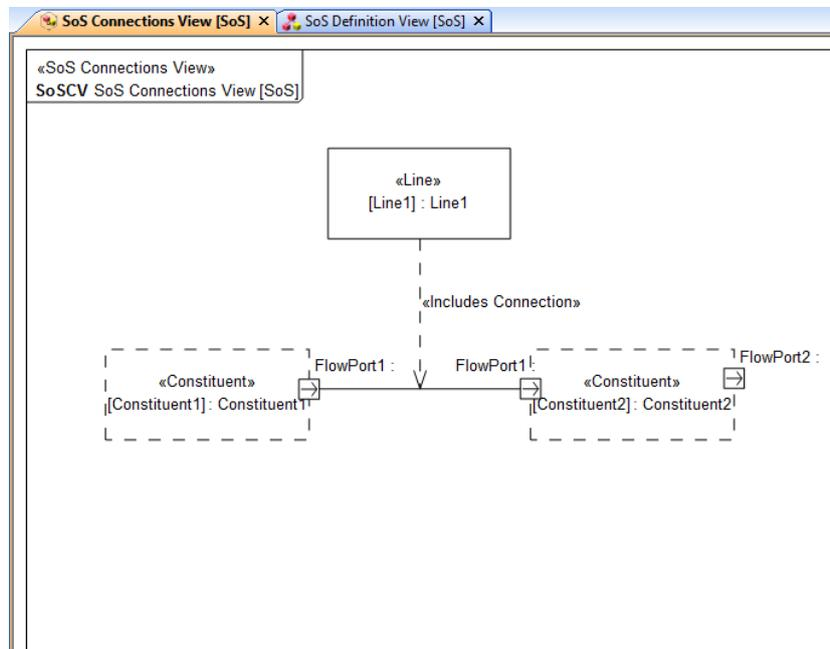

Figure 13: The *SoS Connections View* with the *Includes Connection* dependency added
3. This results in the *SoS Connections View* shown in Figure 13